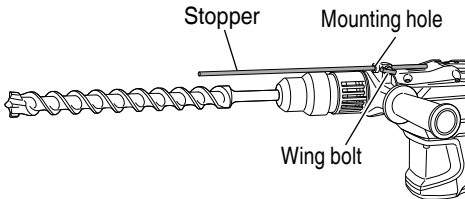

Fig. 16
- (c) Switch the selector lever to “hammering” according to the procedures mentioned in the above item (1) and secure the position of the tool.
5. Install the stopper (Fig. 16)